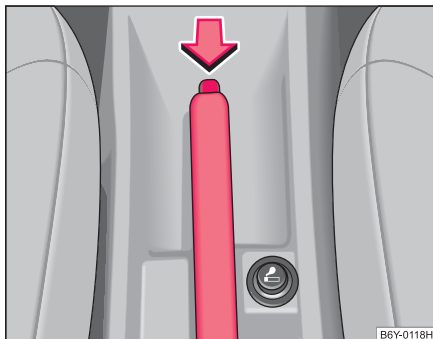

Fig. 85 Centre console: Handbrake
- Pull the handbrake lever up slightly **and at the same time** press in the locking button ⇒ **fig. 85**.